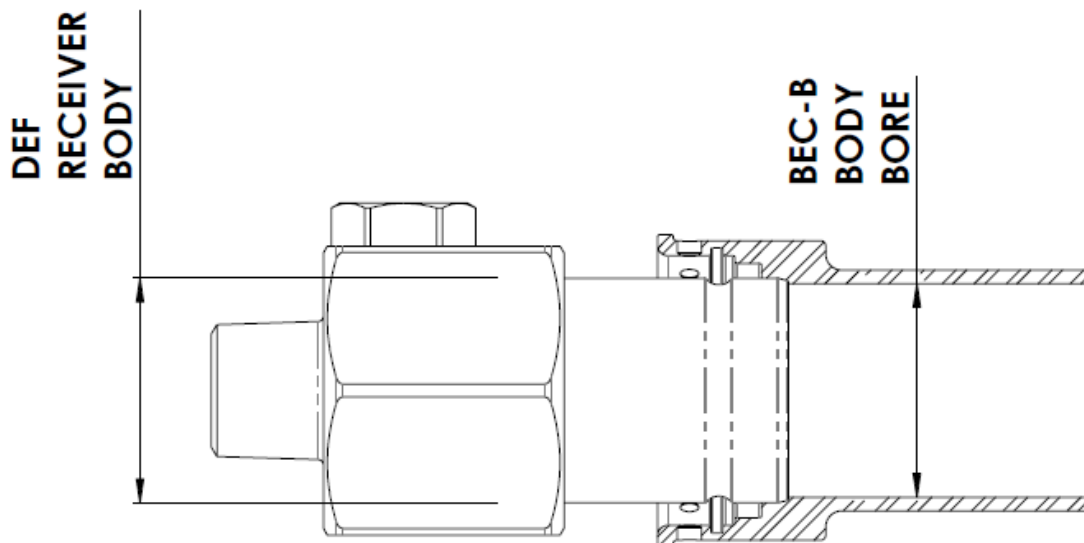

Figure 10 – DEF Receiver incompatibility with BEC-B
1. The DEF Receiver has been designed with specific geometry that **DOES NOT** allow the DEF Receiver to couple with the Banlaw Evacuation Coupling (BEC-B). The DEF Receiver body is physically larger than the BEC-B Body bore, refer to Figure 10.